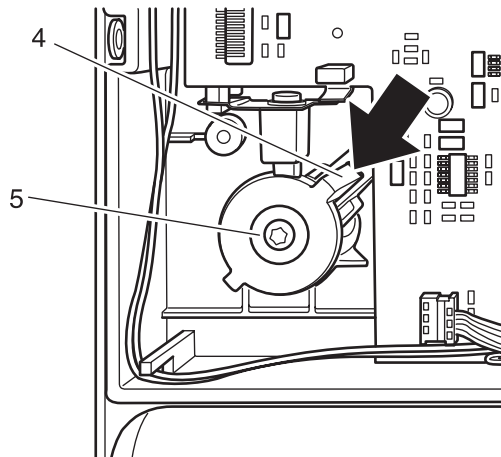

Fig. 15b
- Then remove thrust piece 5 and cover 4 (fig. 15b).